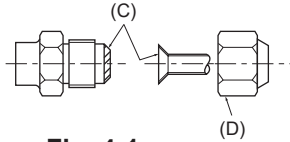

Fig. 4-1
(A) (Fig. 4-1)
(B) (Fig. 4-1)
4.2. Connecting pipes (Fig. 4-1)
- Apply thin layer of refrigerant oil to pipe and joint seating surface before tightening flare nut. (A)
- Use two wrenches to tighten piping connections. (B)
- Apply refrigerating machine oil over the entire flare seat surface. (C)
- Use the flare nuts for the following pipe size. (D)